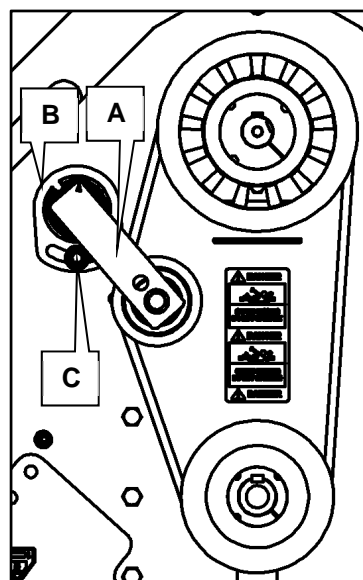

Figure 6.7
- a) Remove the three, drive guard three retaining bolts, remove the drive guard and refer to Figure 6.7.
- b) Check the belt tension (as in section 6.1.5.1 above). Then using a suitable marker, make a mark to note where the adjuster plate (B) currently sits on the cowl end plate.
- c) Slacken the main mounting bolt of the tension unit (A) from the other side of the cowl end plate.
- d) Loosen the adjusting plate locknut (C).
- f) When the belt tension is correct, first re-tighten the adjusting plate locknut (C) and then re-tighten the main mounting bolt of the tension unit (A).